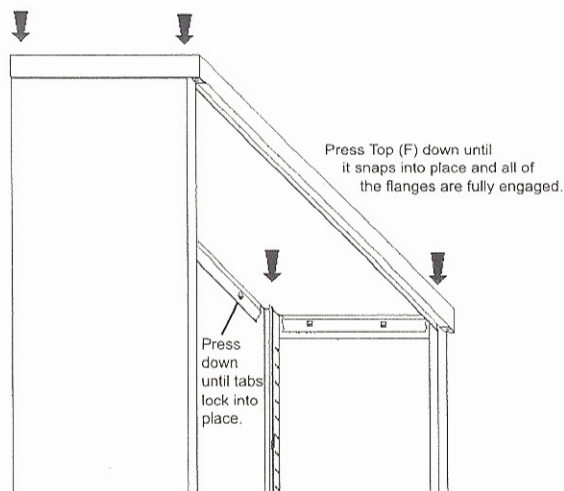

Fig. 4 - Push top down
- D) Make sure the both of the side panels and each of the back panels are **partially** engaged in the flanges **before** pushing the Top (F) down fully.
- E) Once the flanges are partially engaged, push the Top (F) down until it snaps into place and all the flanges are fully engaged. See Fig. 4.